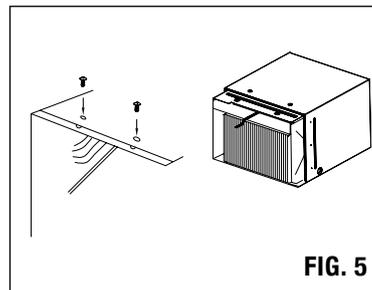

FIG. 5
- Remove shipping screws from top of unit. (See FIG. 5.) Hold the cabinet while pulling on the base handle and carefully remove the unit.